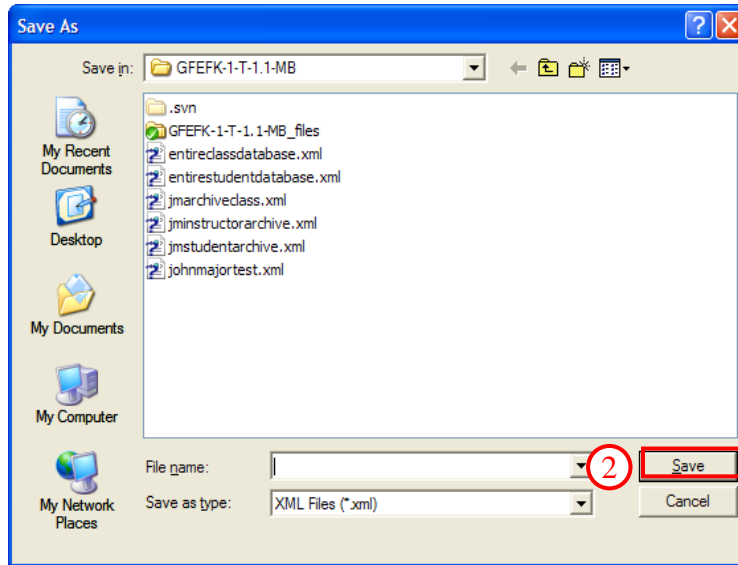

Figure 62. Archive Entire Database - Save As Dialog
2. A Save As dialog is displayed (Figure 62). Navigate to the desired location, enter a File name and click the [SAVE] button.